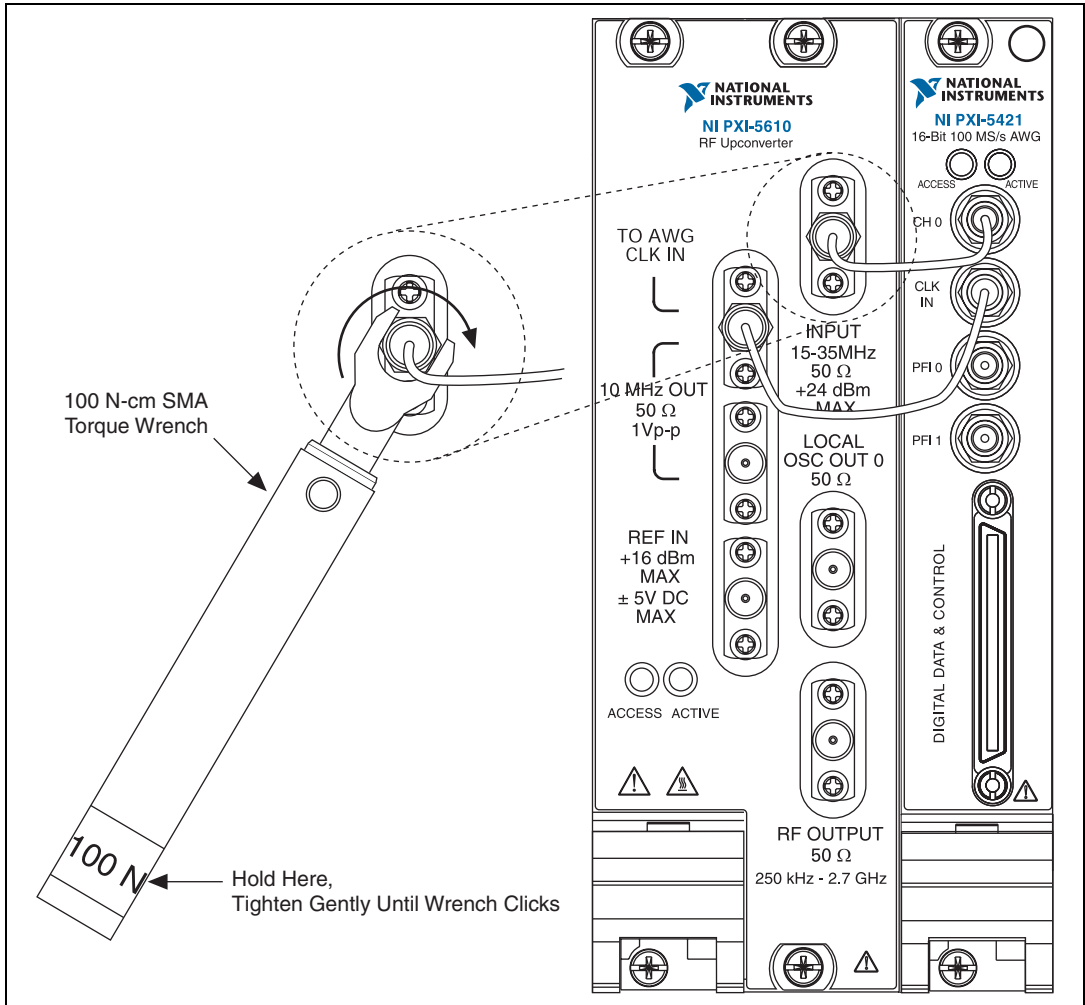

Figure 1-9. Torque All SMA Connectors to 100 N-cm
3. Carefully tighten all SMA connectors to 100 N-cm using an SMA torque wrench (not included) as shown in Figure 1-9. Tighten only until the wrench clicks.